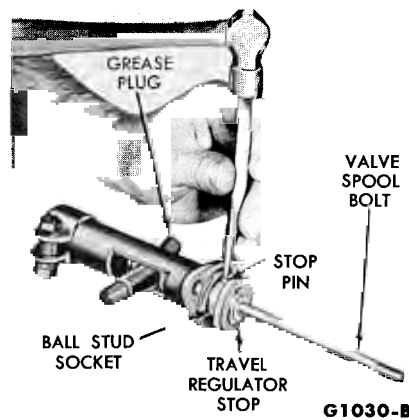

FIG. 13—Removing Stop Pin—Typical
8. Drive the stop pin out of the travel regulator stop with a punch and hammer (Fig. 13). Pull the head of the valve spool bolt tightly against the travel regulator stop before driving the pin out of the stop.
6. Loosen the stop just enough to align the nearest hole in the stop with slot in the ball stud socket, and install the stop pin in the ball stud socket, travel regulator stop, and valve spool bolt (Fig. 13).